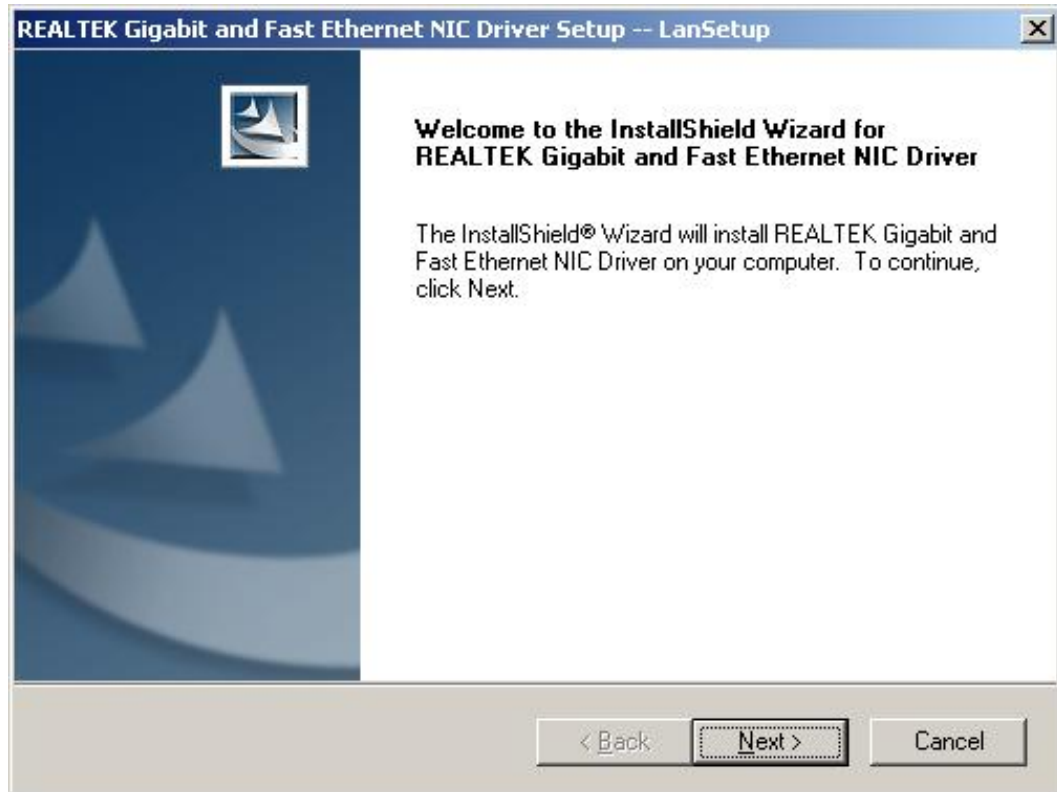

Figure 7-27: Install Wizard Welcome Screen
Step 6: Once initialized, the **Install Wizard** welcome screen appears (**Figure 7-27**).